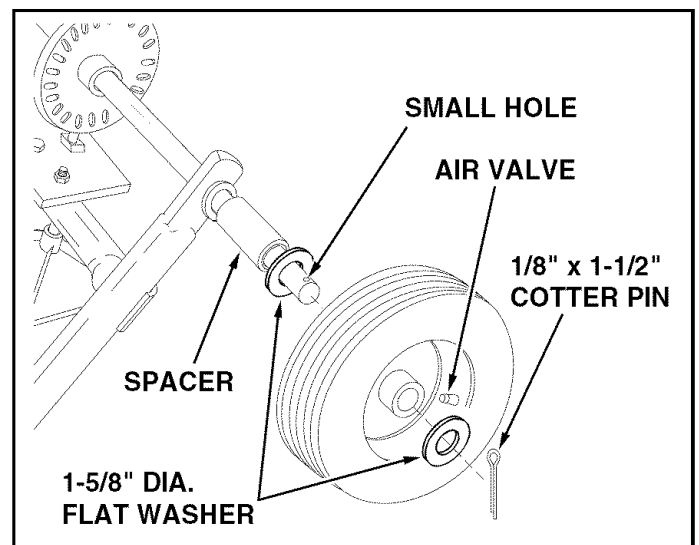

FIGURE 3
- Assemble a spacer, a 1-5/8" flat washer, a wheel (air valve facing out) and another 1-5/8" flat washer onto the end of the axle that has only the **small hole**. See figure 3.
- Install a 1/8" x 1-1/2" cotter pin into hole in the axle. See figure 3.